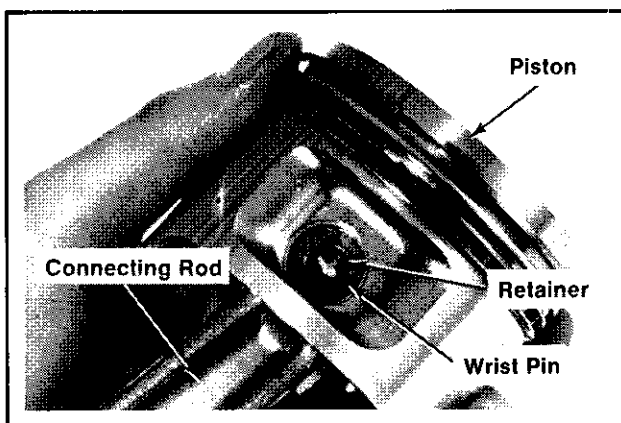

Figure 12A-14. Installing Piston to Connecting Rod (Style "D" Piston Shown).
2. Install wrist pin and retainers. Refer to Figure 12A-14.